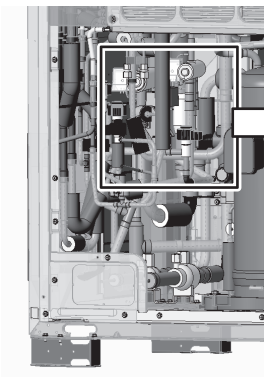

Figure 5-1
- (5) Remove the coils, coil covers, pipe covers, and adjacent wiring of the four-way valve and LEV. (See Figures 5-1 through 5-3.)